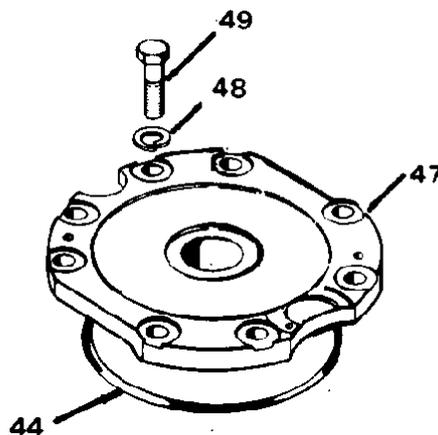

Figure 4-1. Cylinder Cover
Cylinder cover (47, Figure 4-1) is spring loaded in the range of 50 to 2000 pounds (222 to 8896 N) force. Jack screws may be necessary to remove this cover. Refer to the warning tag on the cylinder cover (47). Refer to disassembly for jack screw method of removal.